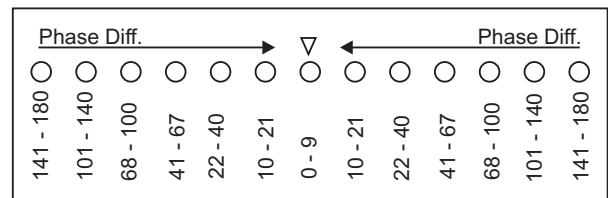

Fig: 2
- e) There are thirteen LEDs arranged horizontally above the LCD. The LEDs start glowing in sequence in accordance with the rate of change of phase difference (As shown in Fig:2).